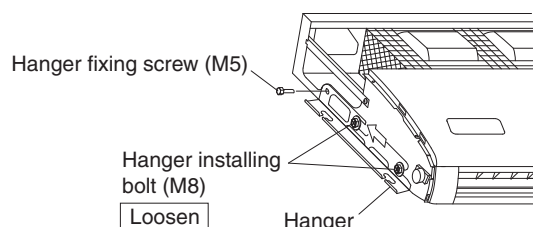

Fig. 8
- Remove the fixture screw for hanger at the back side (M5), pull the hanger backward (the arrow direction) to remove. **(Refer to Fig. 8)**